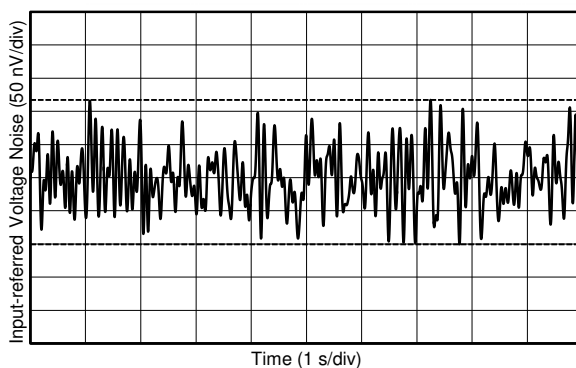

FIG 18. 0.1-Hz to 10-Hz Voltage Noise
0.1-Hz to 10-Hz Voltage Noise	Figure 18